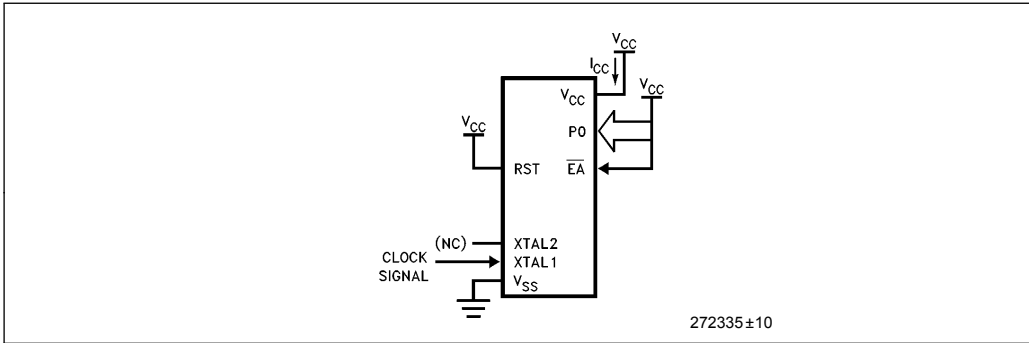

Figure 6.  $I_{CC}$  Test Condition, Active Mode. All other pins are disconnected.
4. See Figures 6 through 8 for  $I_{CC}$  test conditions. Minimum  $V_{CC}$  for Power Down is 2V.